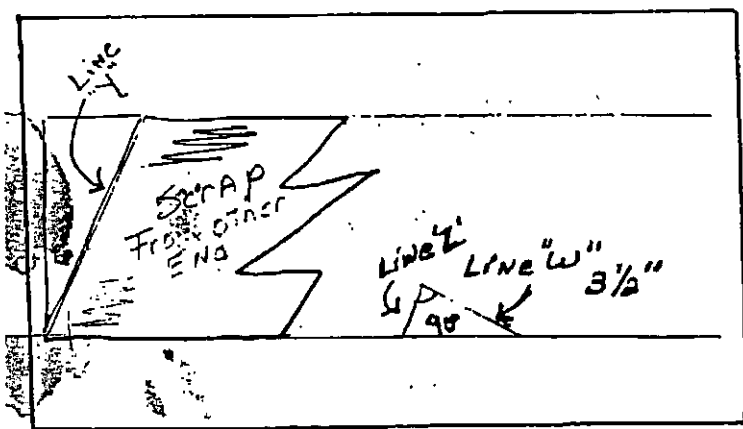

FIGURE 44
- Step 9. Using the scrap from Step 8, draw on identical angle (line Y) at other end of rafter. Using a framing square, draw line "Z" at a right angle to line "W" as shown. Cut off end at line "Y" and cut out notch at lines "W" and "Z". (See Fig. 44)